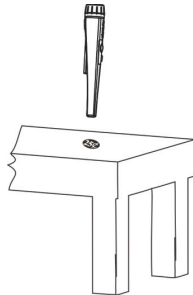

Fig. 3
3.Please put a coin on the plastic or wooden table. There mustn't be any metals under the table or around the coin in order to avoid the influence of metal. Please set the pinpointer above the coin vertically.(See figure.3)